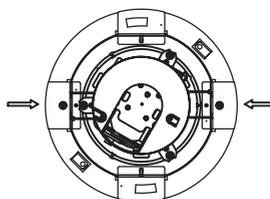

Figure 4
- (4) Push the iron hooks to center. Please refer to Figure 4.